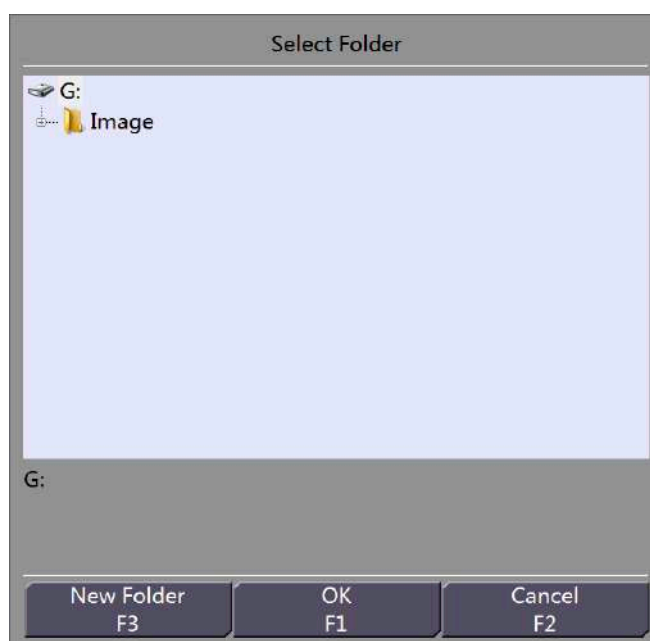

Figure 14-5 Folder Selection Interface
Step 4 Connect a portable storage device to the USB and click  on the right of “Dump To” to display the “Select Folder” dialog box, as shown in Figure 14-5.